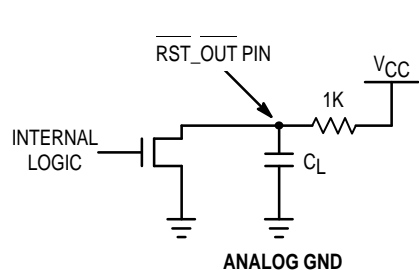

Figure 4. RST_OUT Test Circuit
- The $\overline{RST_OUT}$ pin is an open drain N-Channel output. Therefore an external pull-up resistor must be provide to pull up the $\overline{RST_OUT}$ pin when it goes into the high impedance state (after the MC88920 is phase-locked to the reference input with $\overline{RST_IN}$ held high or 1024 'Q' cycles after the $\overline{RST_IN}$ pin goes high when the part is locked). In the t_{PLZ} and t_{PZL} specifications, a 1K Ω resistor is used as a pull-up as shown in Figure 4.